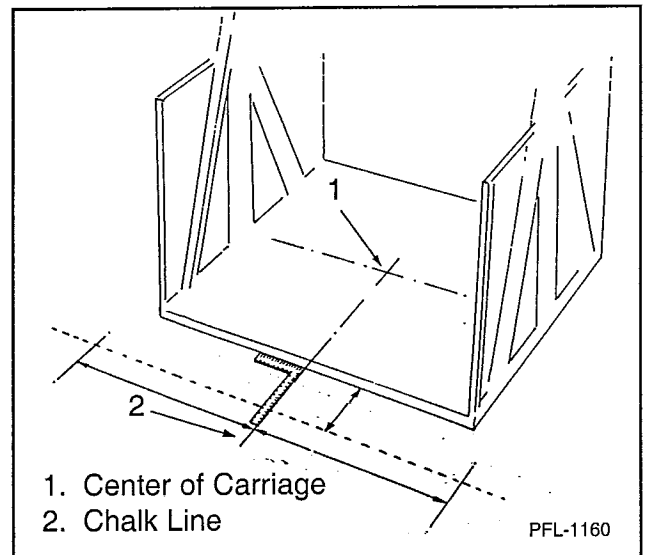

Figure 3
5. Locate and mark center of the carriage. Using a carpenter square held on the front edge of the carriage, mark a chalk line on the floor to assure the center of the gate is on the center line of the carriage. See Figure 3.